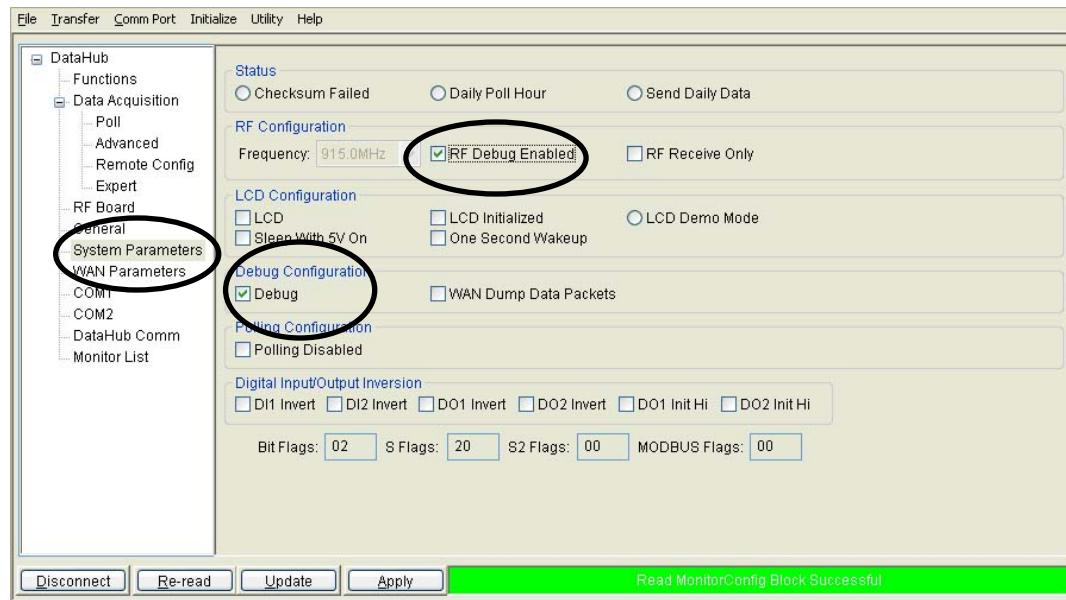

Fig. 7.3: Enable Debug Mode in DataHub
7.8 Under **Debug Configuration** click on check box **Debug**. Fig 7.3